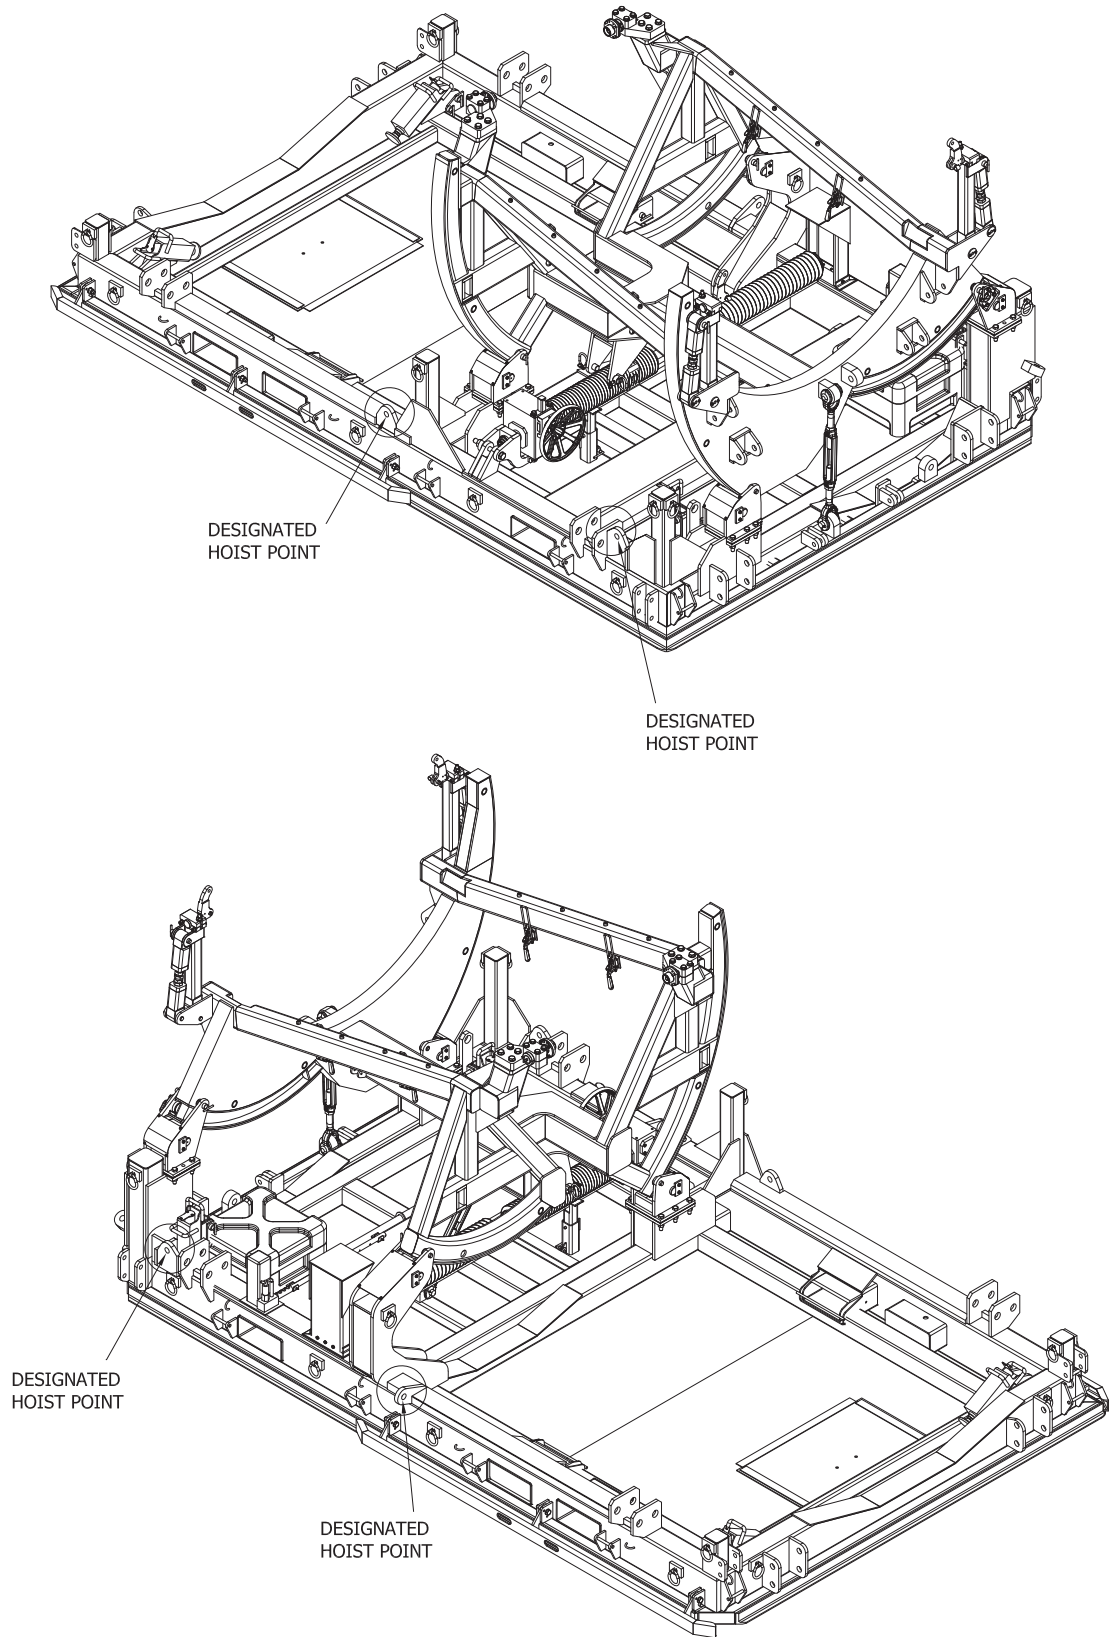

Figure 5.4-1 Hoist Points
Stand CANNOT be forklifted with engine installed . A sling with spreader beam must be attached to the four (4) designated hoist points on the base. (Figure 5.4-1). Approximate weight of stand and engine is 25,000 Lbs.